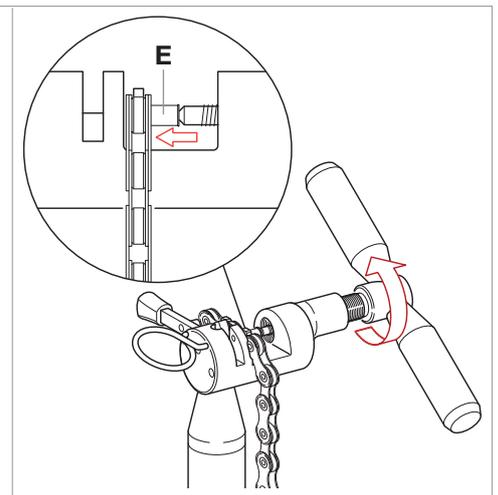

Fig.12
- While exerting a uniform force, screw in the tool (**Fig. 12**) so that the bushing ULTRA-LINK 5-CN-SR700 (E) has completely entered the thickness of the chain.